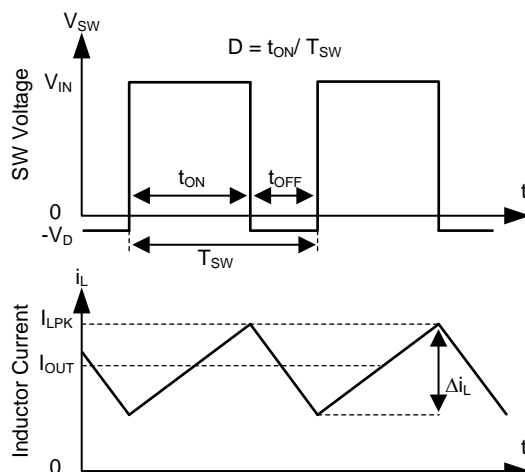

Figure 13. SW Node and Inductor Current Waveforms in Continuous Conduction Mode (CCM)
The following operating description of the LMR23615-Q1 refers to the Functional Block Diagram and to the waveforms in Figure 13. The LMR23615-Q1 is a step-down synchronous buck regulator with integrated high-side (HS) and low-side (LS) switches (synchronous rectifier). The LMR23615-Q1 supplies a regulated output voltage by turning on the HS and LS NMOS switches with controlled duty cycle. During high-side switch ON-time, the SW pin voltage swings up to approximately V_{IN} , and the inductor current i_L increase with linear slope $(V_{IN} - V_{OUT}) / L$. When the HS switch is turned off by the control logic, the LS switch is turned on after an anti-shoot-through dead time. Inductor current discharges through the LS switch with a slope of $-V_{OUT} / L$. The control parameter of a buck converter is defined as duty cycle $D = t_{ON} / T_{SW}$, where t_{ON} is the high-side switch ON-time and T_{SW} is the switching period. The regulator control loop maintains a constant output voltage by adjusting the duty cycle D . In an ideal buck converter, where losses are ignored, D is proportional to the output voltage and inversely proportional to the input voltage: $D = V_{OUT} / V_{IN}$.